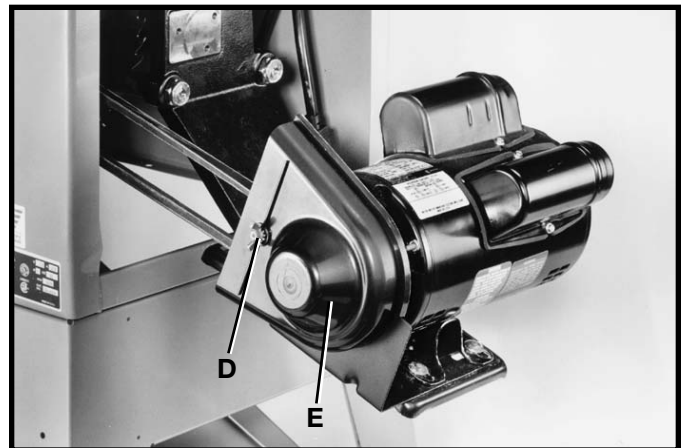

Fig. 25
9. Assemble the outer cover (E) Fig. 25, of the belt and pulley guard assembly, which was removed in **STEP 3**, and fasten with external tooth lockwasher and wing nut (D). **IMPORTANT:** Make certain the outer cover does not interfere with the drive belt and the motor pulley.